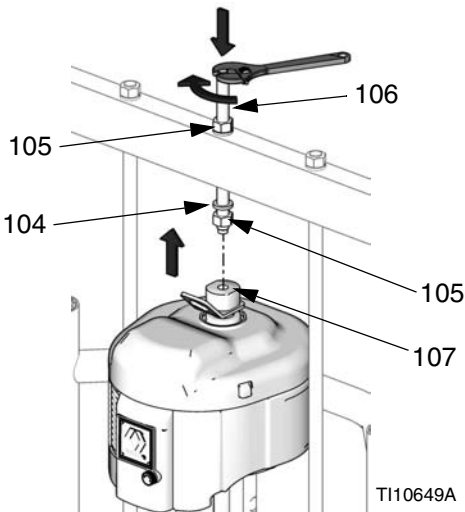

FIG. 29
- b. Install threaded rod (106) through center hole in the crossbar. Install lock washers (104) and nuts (105) onto threaded rod (106), both above and below crossbar. Use wrench to hold lift ring adapter (107) and tighten threaded rod (106) into lift ring adapter (107) using another wrench. See FIG. 29.
- c. Tighten nut (105) below crossbar to 25 ft-lb (34 N•m) maximum.
- d. Tighten nut (105) above crossbar to lock motor in place.